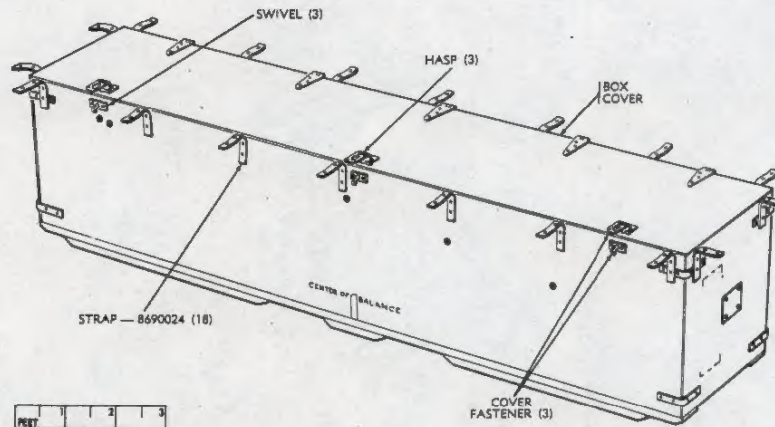

Figure 3-2. Missile fin container.
- (2) The missile fins are received in a plywood box that has a gross weight of approximately 1,000 pounds (fig 3-2). Items in this box are four rear main fins, four forward main fins, and four elevons.